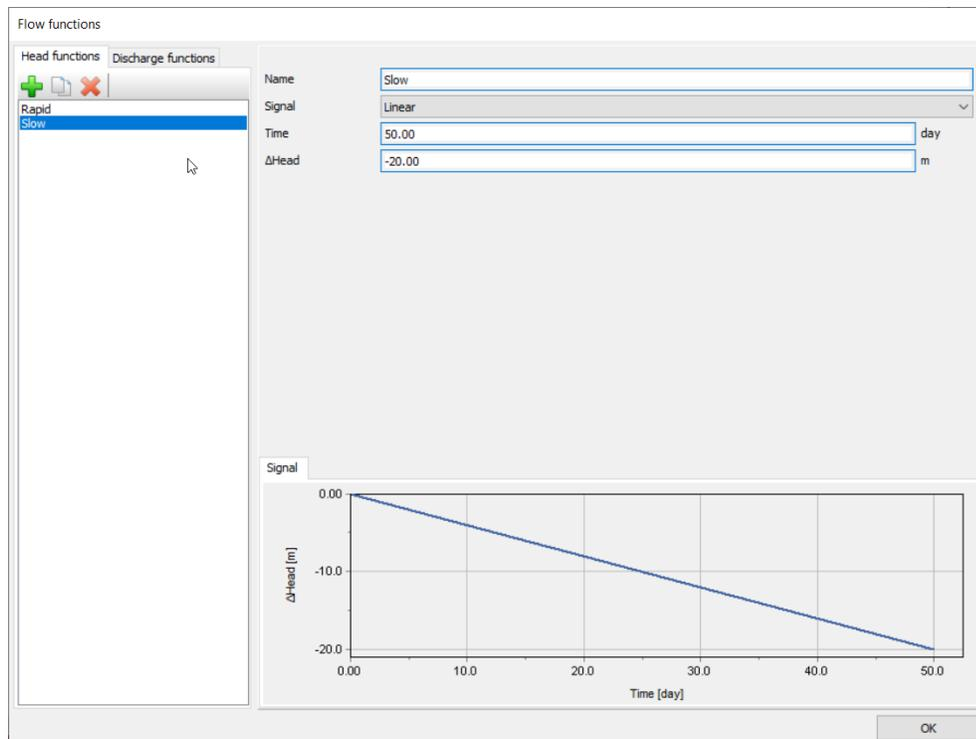

Figure 110: The flow function for the slow drawdown case
9. Create a new flow function (see Figure 110 (on page 137)) following the steps previously described.